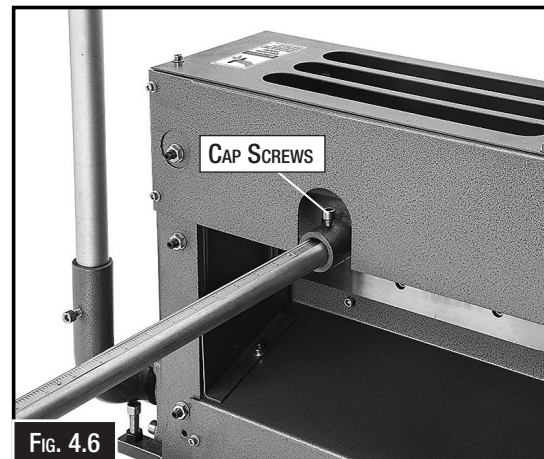

FIG. 4.6
4. If measurement does not match the scale, loosen the cap screws securing support rods and adjust each one until the measurements match. (Fig. 4.6)